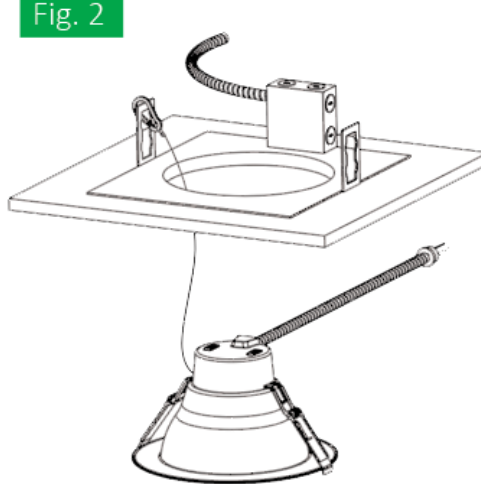

Fig. 3
4. Remove the junction box faceplate. Disconnect all wires to the ballast and remove the ballast from the J-box. Remove appropriate round knockout. Connect incoming power (**white to white, black to black and green to green/ground**). For 0-10V dimming circuits, connect **pink/grey to pink/grey and purple to purple**. Reattach the J-box faceplate. (Fig. 3)